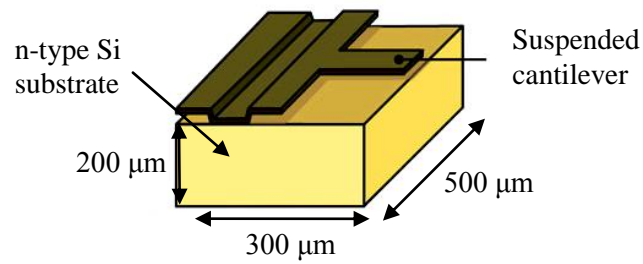

Figure Q6[c]
- [c] **Figure Q6[c] shows a suspended cantilever structure on top an n-type Si substrate. The structure was constructed by surface micromachining. Describe the prior machining steps before this structure is produced.**